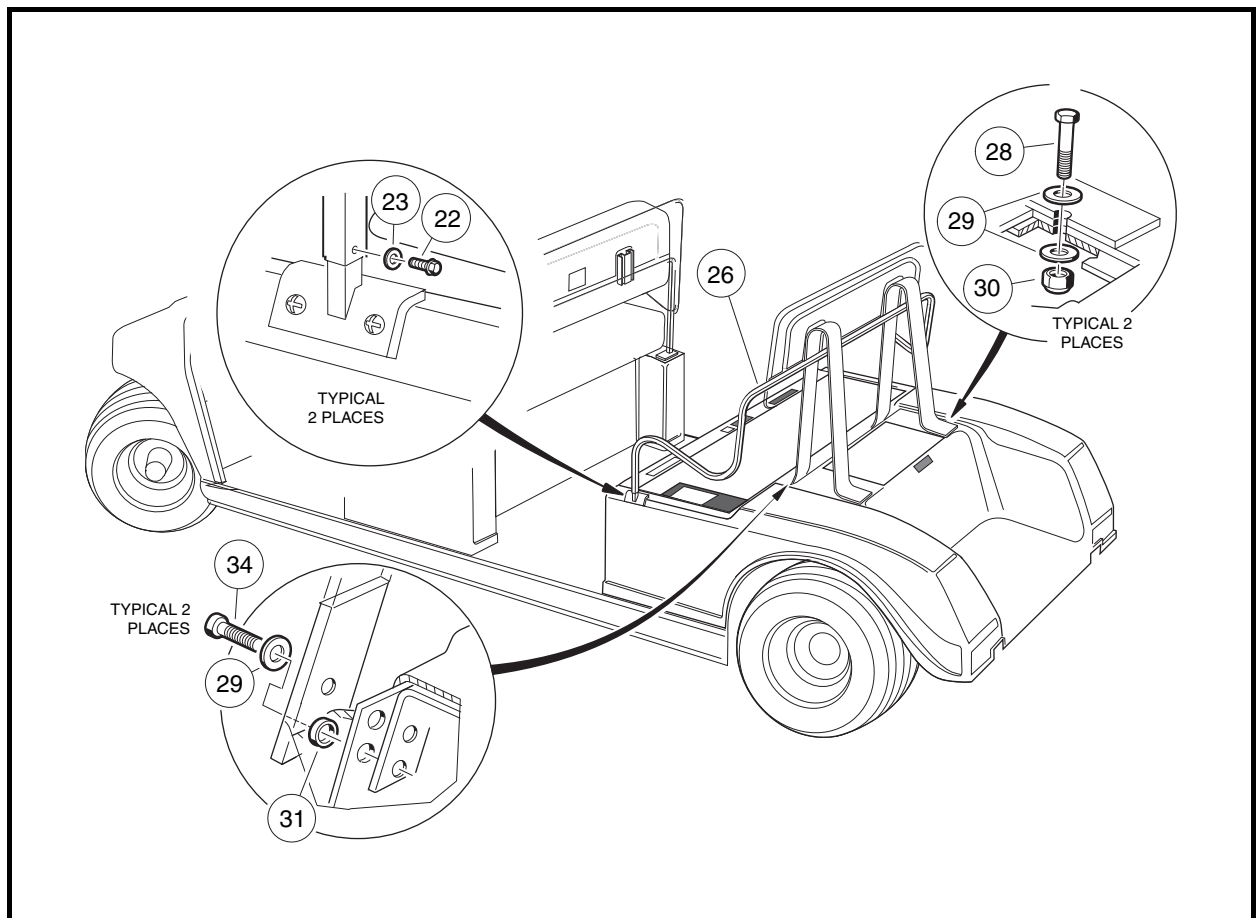

Figure 4-12 Rear Body – Villager 6 and 8
- 15.1. Remove screws (22) and washers (23) from each side of the hip restraint/setback assembly (26) (**Figure 4-12, Page 4-11**).
- 1.3. Tighten the two bolts (26 or 28), washers (25 or 29) and nuts (24 or 30) attaching the rear legs of the seat back support assembly to the body to 11 ft-lb (14.9 N·m) (**Figure 4-11, Page 4-10 or Figure 4-12, Page 4-11**).
- 1.4. Tighten four bolts (28 or 34), flat washers (25 or 29), and spacers (27 or 31) attaching the front legs of the seat back support assembly to the body to 20 in-lb (2.3 N·m) (**Figure 4-11, Page 4-10 or Figure 4-12, Page 4-11**).
- 1.9. Tighten the hip restraint mounting screws (22) to 9 ft-lb (12.2 N·m) (**Figure 4-12, Page 4-11**).